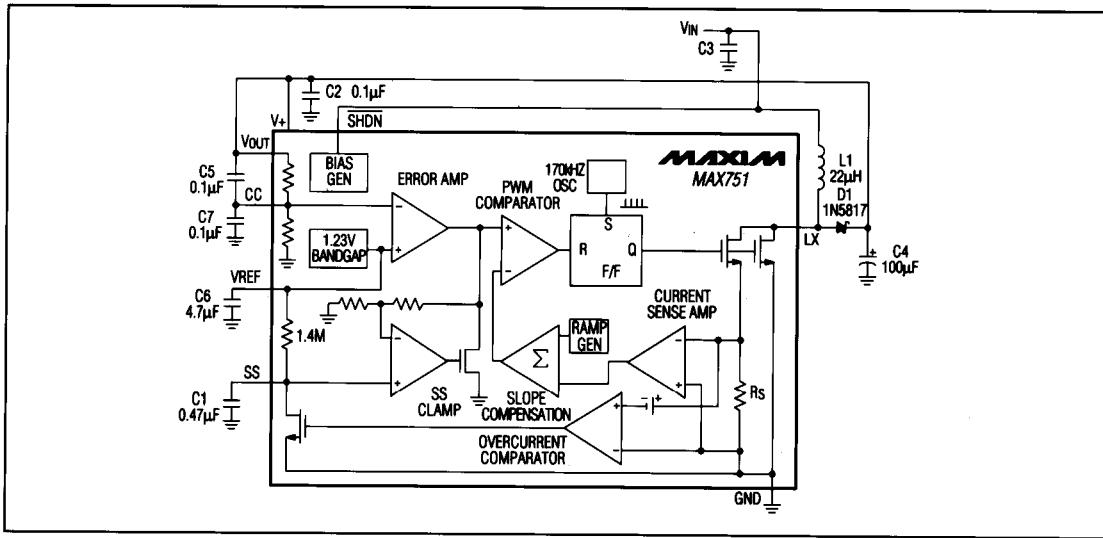

Figure 1. Detailed Block Diagram with External Components, Bootstrapped Mode
(Circuit of Figure 1, V_{IN} = +3V, I_{LOAD} = 0mA, T_A = T_{MIN} to T_{MAX}, typical values are at T_A = +25°C, unless otherwise noted.)
(Circuit of Figure 1 in bootstrapped mode, $L_1 = 22\mu\text{H}$, $T_A = +25^\circ\text{C}$, unless otherwise noted.)
The controller consists of two feedback loops: an inner (current) loop that monitors the switch current through the current-sense resistor (RS) and amplifier, and an outer (voltage) loop that monitors the output voltage with an error amplifier (Figure 1). The inner loop performs cycle-by-cycle current limiting, truncating the power transistor on time when the switch current reaches a threshold determined by the outer loop. For example, a sagging output voltage produces an error signal that raises the threshold at the error amp output. This allows the inductor current (which generates the current-sense amp output voltage) to increase, resulting in more energy stored and transferred during each cycle.
The Soft-Start (SS) pin limits power-up current, allowing proper start-up with a load on the output. On power-up, the MAX751 uses the maximum switch duty cycle to draw excessive current to charge the output filter capacitor, and supply current to the load. In this case, the device may stall and the output voltage will not rise to 5V. A capacitor (between 0.047 μ F and 5 μ F) is required on SS to ensure proper start-up. The larger the capacitor, the slower the internal current-limit threshold is raised, allowing more time for start-up. As the voltage on the SS pin increases, the voltage at the SS clamp output increases, which in turn increases the current-limit threshold (Figure 1).
Use a Schottky diode with a continuous-current rating of at least 500mA for full-load (\geq 200mA) operation. The 1N5817 is a good choice. The two compensation capacitor values at the CC input are critical because they have been selected to provide the best transient response. The input capacitor (C3 in Figures 1, 2, and 4) may be omitted if the power supply impedance is very low. Otherwise, up to 100 μ F may be necessary.
The power-up SS charge rate is determined by the time constant formed by the SS capacitor and the internal $1.4\text{M}\Omega \pm 25\%$ resistor between VREF and SS (Figure 1).